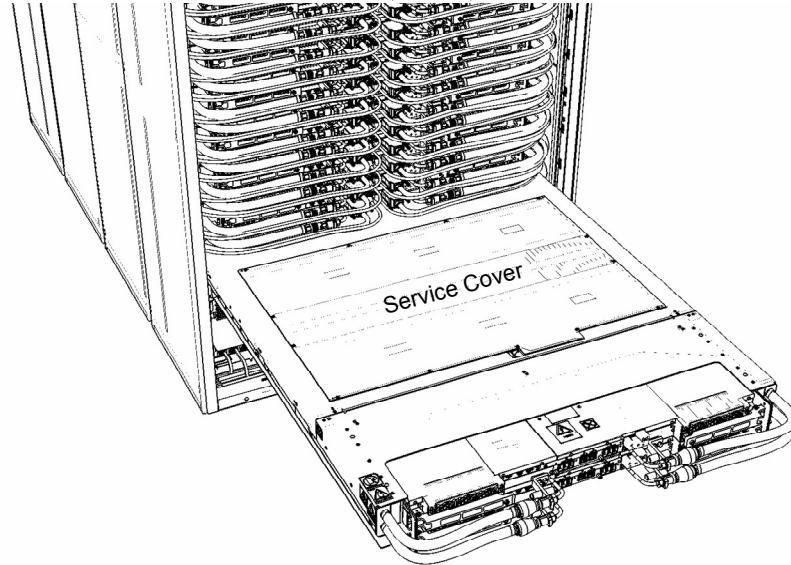

Figure 22 CEC Drawer in service position
STEP 35 Continue sliding out the drawer until it has reached the service position as shown in Figure 22.
- **Do not pull the CEC drawer further out than shown in Figure 22**
- **Note, the CEC Drawer has a two stop latch designed into it.** One on the left side of the CEC Drawer and one on the right side. The latches are designed to stop the drawer when it reaches the position shown in Figure 22.